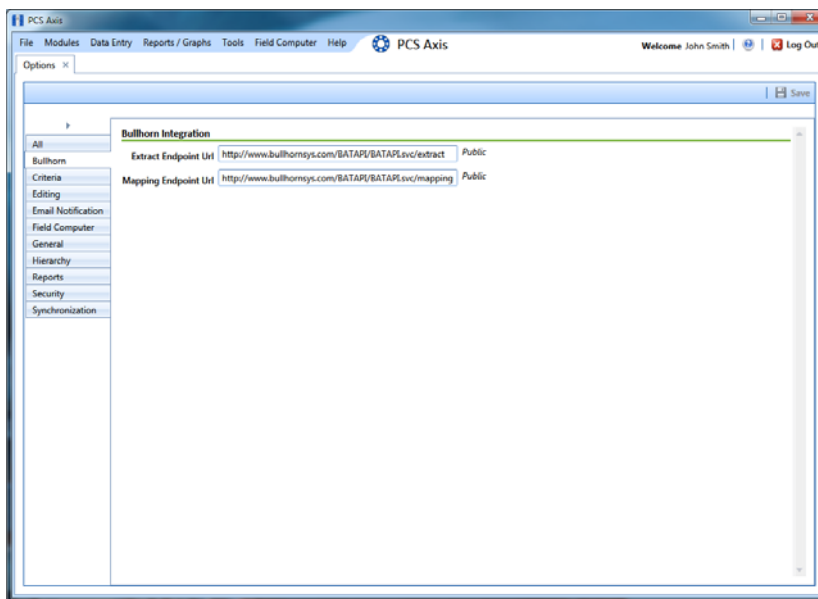

Figure 2-6. Bullhorn Options
- 1 Click **Tools** > **Options** > **Bullhorn** tab to open the *Bullhorn* options page (Figure 2-6, page 28).